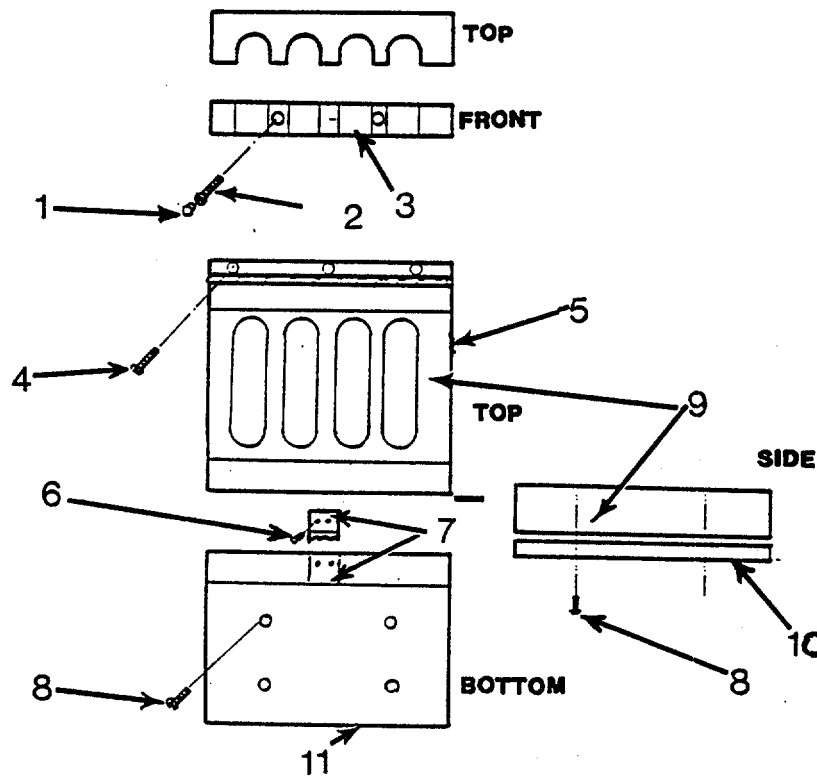

Figure 4-28. Repair Rifle Rack Assembly
4-25. RIFLE RACK ASSEMBLY. Refer to figure 4-28 for location of components and hardware of rifle rack assembly.
- a. Repair by replacing upper rifle rack. (See Figure 4-28.)
- (1) Remove caps (1), screws (2), and upper rifle rack (3).
- (2) Position replacement upper rifle rack (3) over holes and secure with screws (2). Install caps (1).
- b. Repair by replacing lower rifle rack. (See Figure 4-28.)
- (1) Remove screws (4) and lower rifle rack (5).
- (2) Position replacement lower rifle rack (5) and secure with screws (4).
- c. Repair by replacing hook and pile fastener. (See Figure 4-28.)
- (1) Using electric drill, drill out rivets (6) and remove hook and pile fastener (7).
- (2) Position hook and pile fastener (7) and using blind riveter install rivets (6).
- d. Repair by replacing rubber mat. (See Figure 4-28.)
- (1) Remove screws (8), lower rifle guide (9), and rubber mat (10).